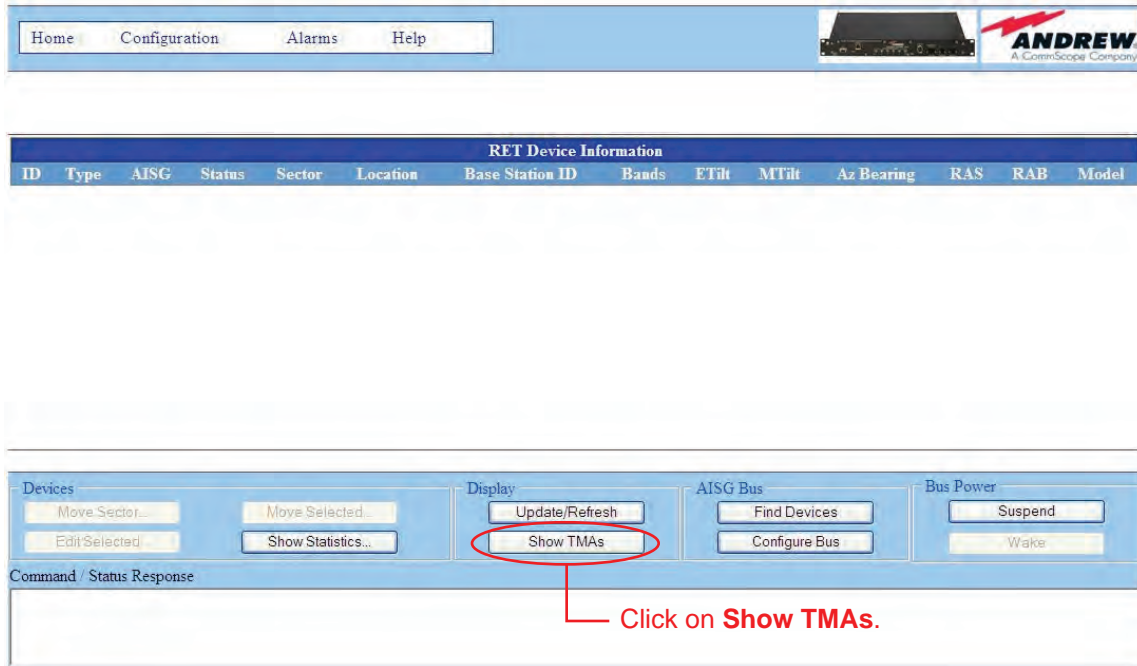

Figure 23-3. ATC300 Controller's Main Interface Screen – RET View.
4. Any RET devices found are initially listed on the main screen. Click on the **Show TMAs** button to see all TMAs found in the device scan. See Figure 23-3.